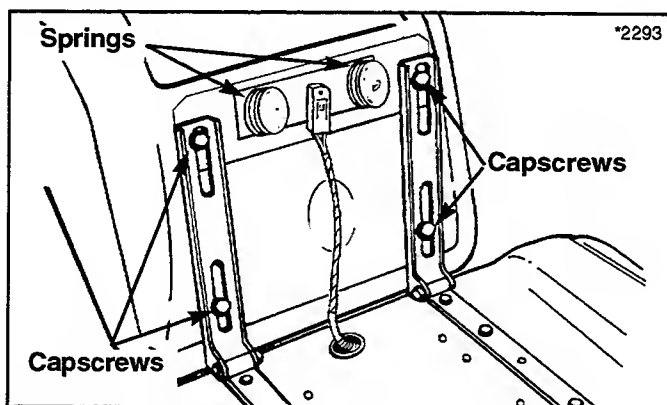

Figure 22 Seat Adjustment
1. See Figure 22. Lift up the seat and loosen the four capscrews.